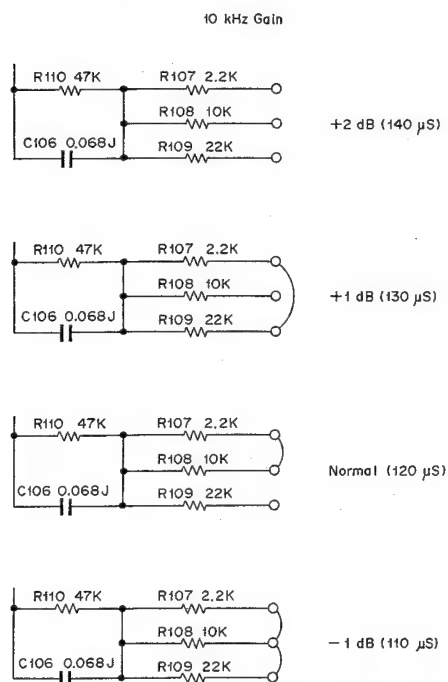
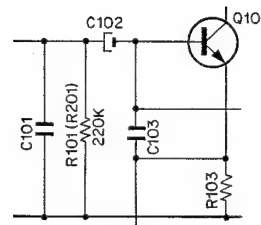

Fig. 6.20 Playback Equalizer Adjustment
Fig. 6.21 PB Head Amp. Peaking Compensation
- (1) Open 22 k Ω of R109,209 of the PB Head Amp. P.C.B. (EQ and time constant shall show 120 μ s).
- (2) Load a 400 Hz Level Tape (DA09005A) to playback, and turn the output level controls till the indication of the VTVM shows 0 dB (for example) or easy reference of value.
- (3) Load a 10 kHz PB Frequency Response Tape (DA09003A) and play it back.
- (4) Check the output of 10 kHz and then, referring to Fig. 6.20, adjust EQ in the range of $110\ \mu\text{s}$ – $140\ \mu\text{s}$, the result of which shall be 0 to + 3 dB.
- (5) Load a 15 kHz PB Frequency Response Tape (DA09002A) and play it back.
- (6) If the output of 15 kHz shows the value within ± 2 dB against 400 Hz Level Tape, it is considered satisfactory.
- (7) Load a 20 kHz PB Frequency Response Tape (DA09001A) and play it back.
- (8) If 15 kHz at (5) shows the value within ± 2 dB and 20 kHz being less than -3 dB, replace the playback head.
- (9) Adjustment shall be made so that the level at 10 kHz, 15 kHz and 20 kHz will become flat when compared with 400 Hz.
- (10) If the results are shown to belong to high, set R101,201 to open – $100\ \text{k}\Omega$. Refer to Fig. 6.21.
- (11) Adjust the azimuth alignment to the maximum output with a 15 kHz Azimuth Tape (DA09004A).